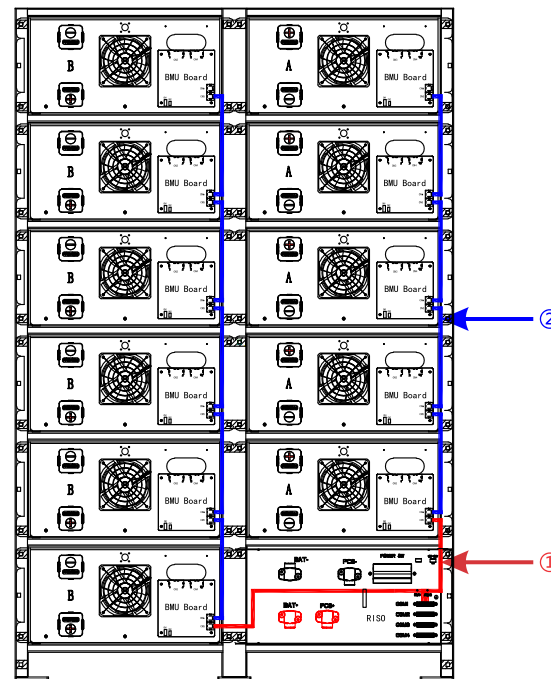

Figure-21 Battery cluster communication cable wiring diagram
2) According to the wiring position shown in Figure-21, each cluster is connected to the battery module communication line in the S-shape from the lower right corner.